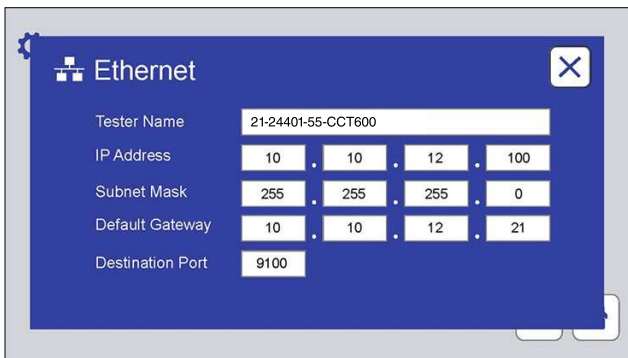
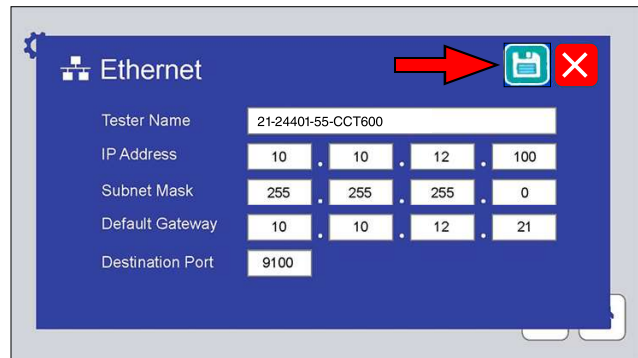

Figure 9.7q: This screen displays and provides text boxes to enter Ethernet connection parameters.
Figure 9.7t: Touch the save icon to save any changes to Ethernet parameters.
- o Ethernet (Figure 9.7q through Figure 9.7t).